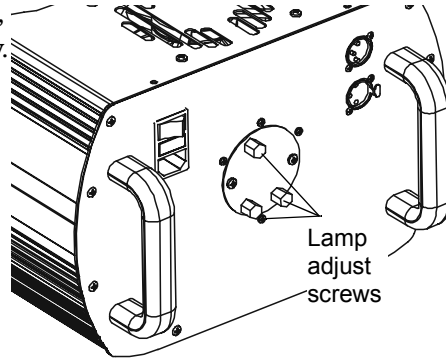

Figure 4-4 Optimizing the lamp
5. Locate the three lamp adjust screws shown in Figure 4-4.